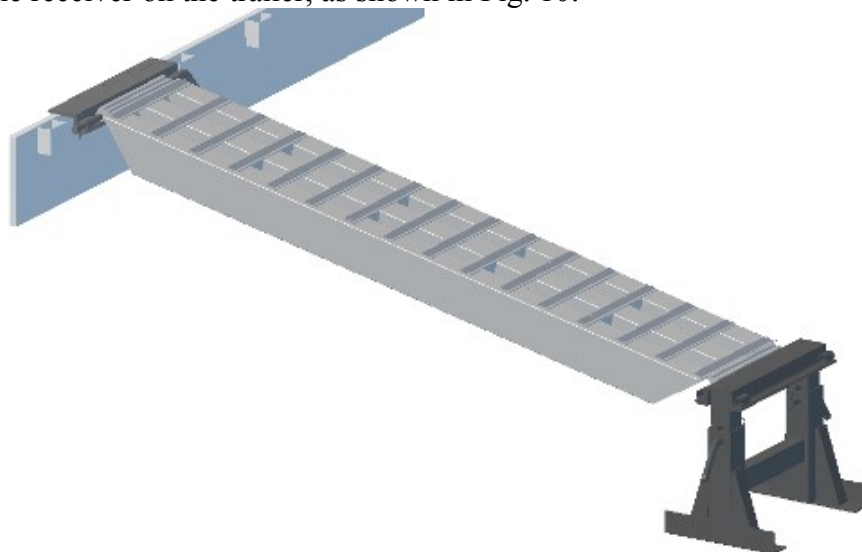

Figure 10 – Side View of 8' Upper Ramp Section, in place between trailer receiver and ramp stand
5) Place one (1) 25"-long retaining rod through the hole on the side of each ramp stand's square support column and secure the rod with a supplied key pin on the other end, using the second/middle hole selection on the inner square tube for a trailer height of 40". Note that if your trailer height is 39" or less in height (but no less than 37-1/2"), use the first/top hole on the inner square tube; likewise, if your trailer is 41" or greater (but no greater than 42-1/2"), use the third/bottom hole on the inner square tube.
6) Place either end of an 8' upper ramp section into the curved cradle receiver on a ramp stand, and the other end into the curved cradle receiver on the trailer, as shown in Fig. 10: